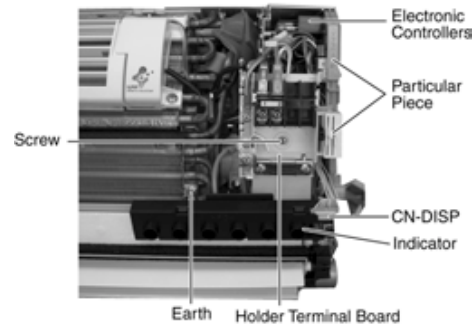

Fig. 3
1. The Electronic Controller, a Signal Receiver and an Indicator (Fig. 3) can be seen by the below steps:
- Release the 2 Particular Piece. (Fig. 3)
- Release the earth wire screw. (Fig. 3)
- Release the screw holder terminal board. (Fig. 3)
- Release the CN-DISP connector. (Fig. 3)